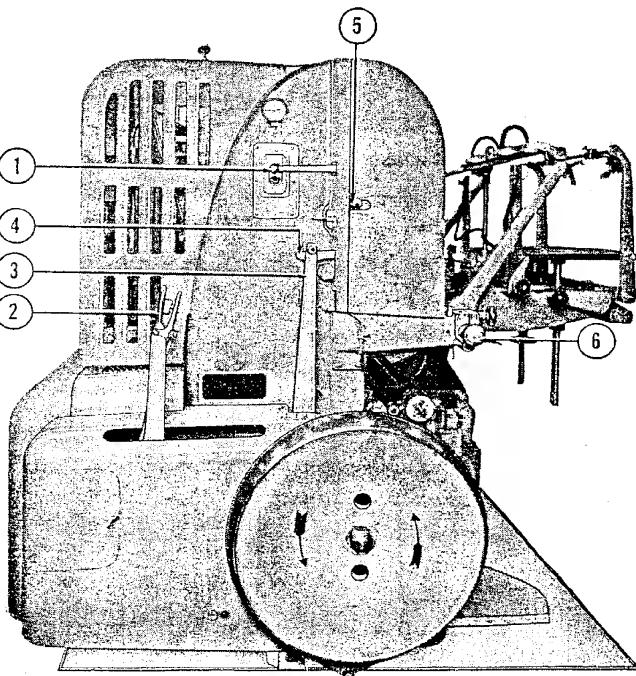

Figure 10—Operating Controls
**2. OPERATING CONTROLS.** (See figure 10.)—The following information identifies and explains the function of all controls used during press operation.
a. START - STOP PUSH BUTTONS.—The "START-STOP" push buttons (1) control the starting and stopping of the press motor.
b. BELT-TIGHTENER LEVER.—The belt-tightener lever (2) is used during press operation to start and stop the press while the motor continues to operate. When the lever is released (pulled to the left) the press drive belt is disengaged from the pulley and braking is applied to the press flywheel.
c. BELT-TIGHTENER TRIP AND AUTO-STOP LEVERS.—The belt-tightener trip and auto-stop levers (3) and (4) automatically release the belt-tightener lever when sheets are not being fed and automatic stop control knob (5) has been turned to its up position. After tripping occurs, the belt-tightener trip and auto-stop levers are automatically re-engaged.
d. FEEDER CONTROL AIR VALVE HANDLE.—The feeder control air valve handle (6) controls the operation of the feeder air valve which supplies suction to the separator shoes. When handle is pushed in, suction is supplied to shoes for sheet pick-up.